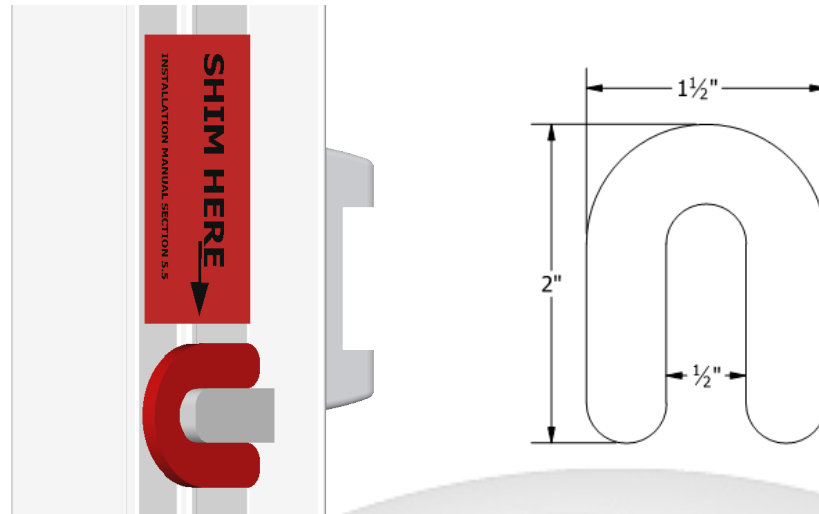

Figure 11: Jamb Shim Shelf Application
- I) Shims must be constructed from high impact non-deteriorating and corrosion resistant material such as PVC or similar plastic. Horseshoe shims as shown in *figure 11* are recommended and will be needed in various thicknesses to achieve proper installation.
C) A "SHIM HERE" label in addition to a VPI Shim Shelf foam block as shown in *figure 11* is included at all required jamb shim locations. The Shim Shelf will provide a safety net to keep shims in place during the remainder of the installation process. Shims of the size in *figure 11* (available from Glazelock) are an ideal fit, but most shims are compatible.